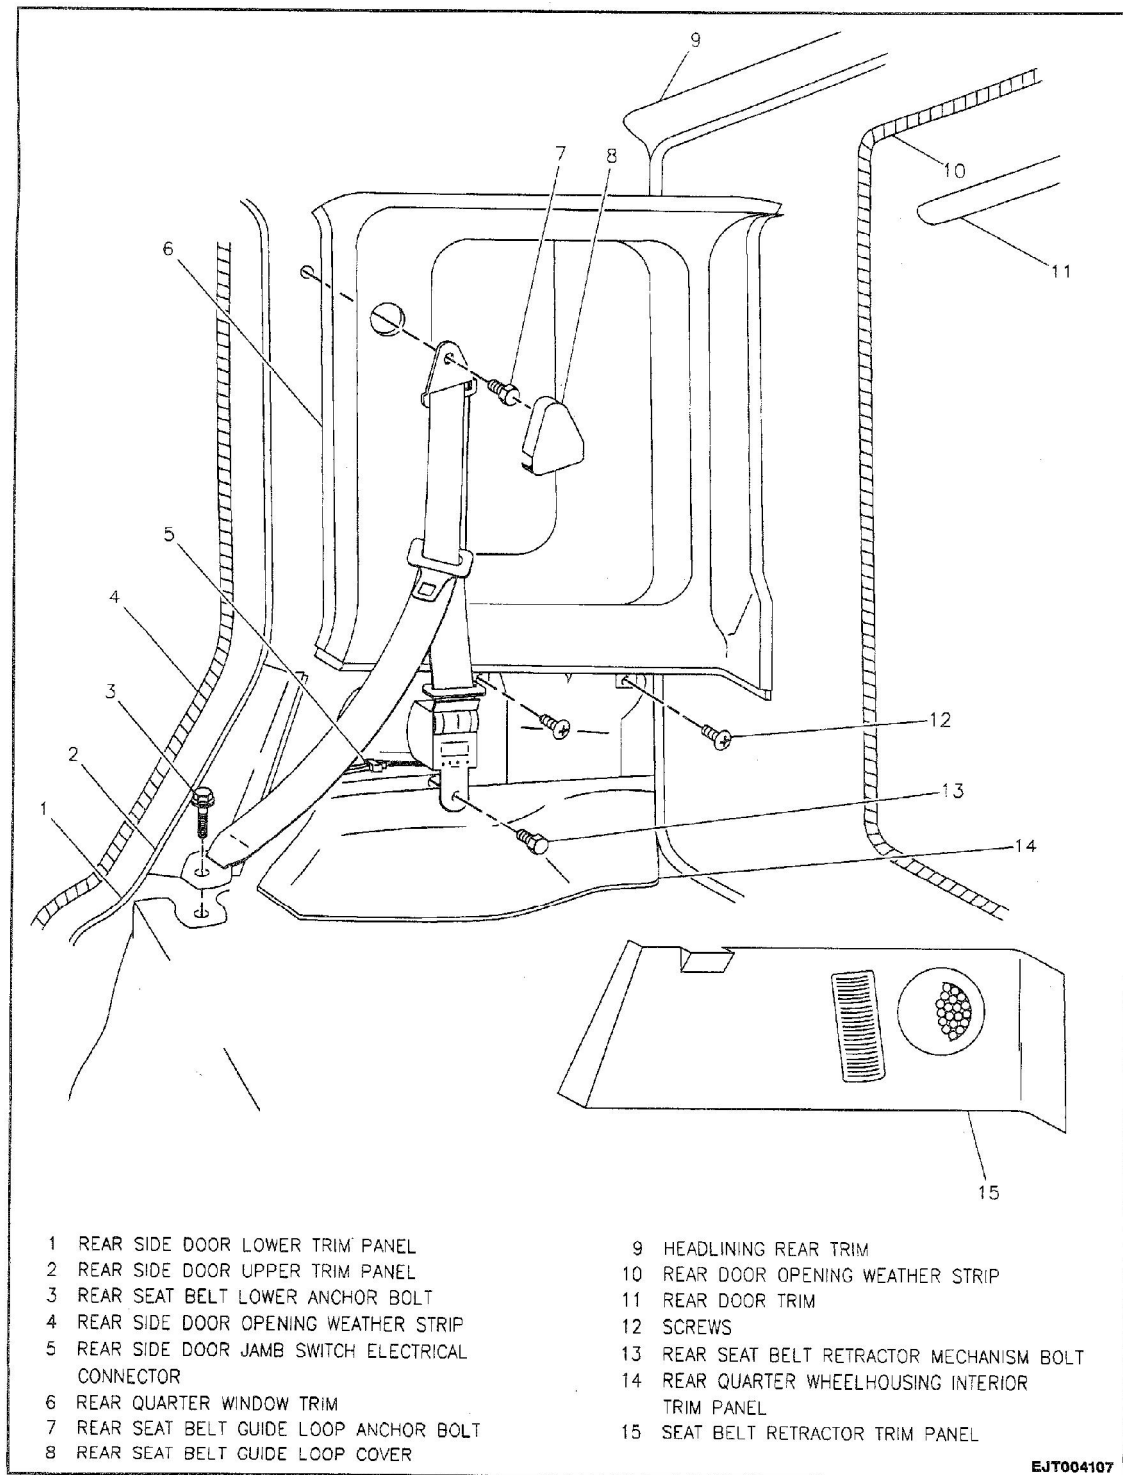

Figure 7—Rear Seat Retractor Trim Panel—Four - Door Models
1. Rear seat belt guide loop cover and anchor bolt (Figure 7).
3. Rear seat belt lower anchor bolt (Figure 7).
2. Rear seat belt lower anchor bolt (Figure 7).